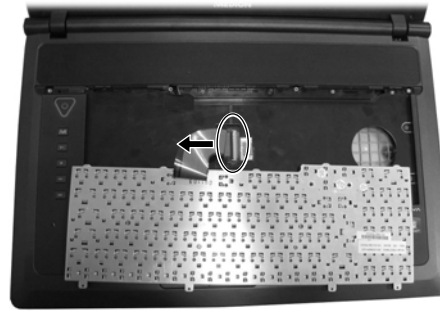

Figure 2-12 Remove the keyboard
4. Slightly turn over the keyboard and disconnect the cable from the system board to detach the keyboard. (Figure 2-12)